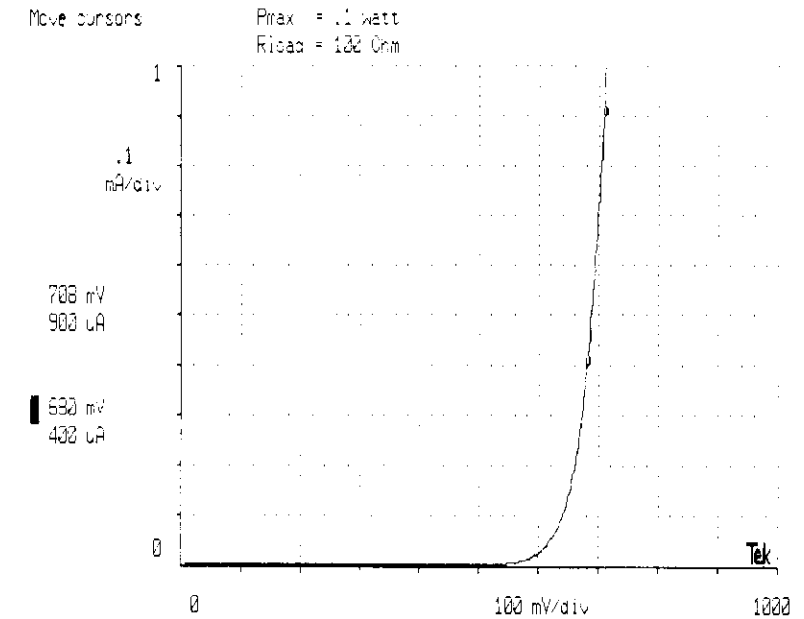

Figure 3-14: Diode Curve in Forward Direction
- Step 3. Press START. This results in a curve as in Figure 3-14.